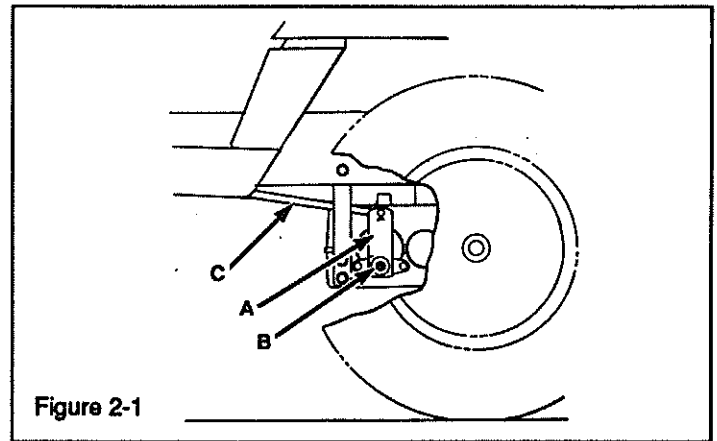

Figure 2-1
### 1. BRAKE ADJUSTMENT (ALL GEAR DRIVE MODELS EXCEPT 3118 ), FIGURE 2-1.
2. To reach this travel, adjust nuts (B, Figure 2-1).
3. With rod (C) of brake removed, total travel of brake arm from side to side should not be more than  $7/8"$  (22 mm).